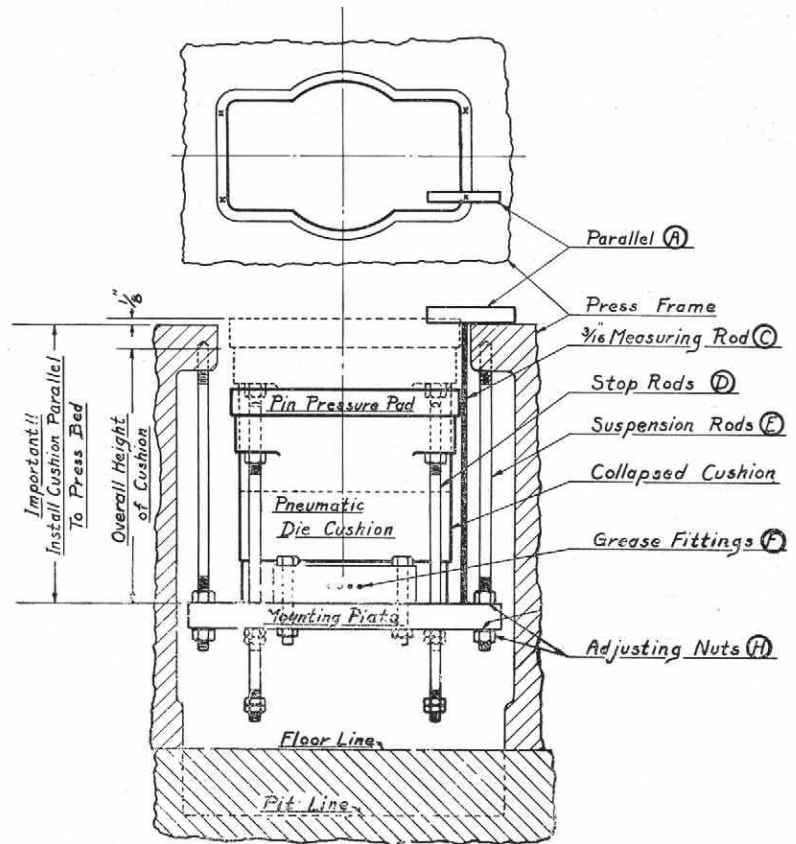

Fig. No. 17
(1) Remove the bolster plate and check both surfaces carefully to make sure they are flat and parallel. **THIS IS IMPORTANT!** If surfaces are bowed and not parallel, have them machined so that the pin pressure pad of the cushion will have an accurate surface to stop against.
(2) Screw the ends of the suspension rods, "E", (See Fig. No. 17) with the short length of thread into the drilled and tapped holes in the press bed, which have been provided for mounting the die cushion. Make sure these rods are pulled up as far as they will go into the tapped holes. If the cushion is to be suspended from mounting bosses that are not tapped, the mounting rods are provided with nuts on both top and bottom of the bosses.
(3) With the use of skids or timbers slide the cushion into the approximate location relative to the press bed opening. (NOTE: If the distance between the mounting rods at the front of the press bed is not enough to allow the cushion to pass between them, it is advisable to leave them out until after the cushion has been placed under the press bed opening.)
(4) Run on the upper adjusting nuts, "H", as far as they will go. Raise the cushion unit so that the rods pass through the holes in the mounting plate or mounting channels and run on the lower adjusting nuts, "H".
(5) Prepare a measuring rod, "C" from 3/16" round steel for adjusting the height and alignment of the cushion unit. The over-all length of this rod should be equal to the over-all height of the cushion when expanded, plus the thickness of the pin pad minus 1/8". **The 1/8" is allowed to make sure that the pin**
(6) With a large parallel, "A", laid on top of the press bed (see Fig. No. 17), line up the supporting structure at the four points marked "X", by using the measuring rod, "C". The adjustment and alignment of the mounting plate at these four points must be held to a maximum tolerance of 1/64" to avoid a tilting action. After this adjustment is obtained, lock the upper adjusting nuts on the mounting plate, which will secure the cushion unit in correct parallel alignment and relative height in connection with the top of the press bed.